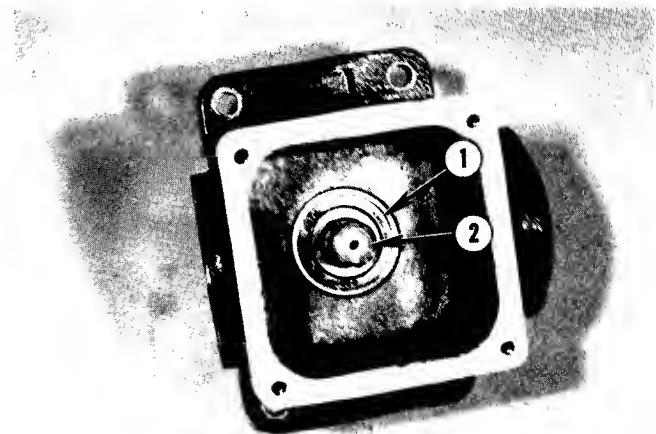

**FIG. 10.10--OUTPUT SHAFT SEAL AND RETAINING RINGS INSTALLED**
15. Install seal with lip of seal toward inside of gearbox and install another retaining ring, Fig. 10.10.